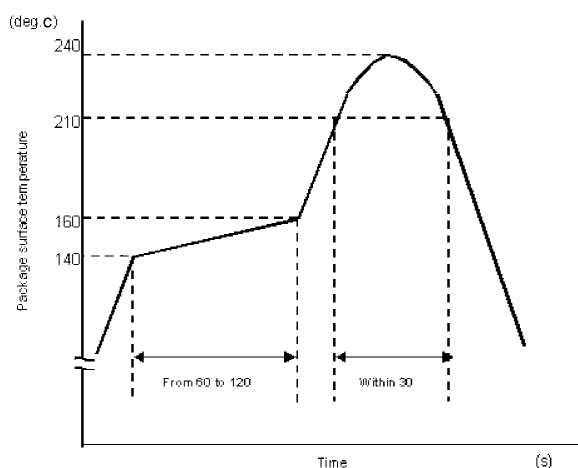

Fig. 13.1.1 An example of a temperature profile when Sn-Pb eutectic solder is used
- When using soldering reflow (See Fig. 13.1.1 and 13.1.2)